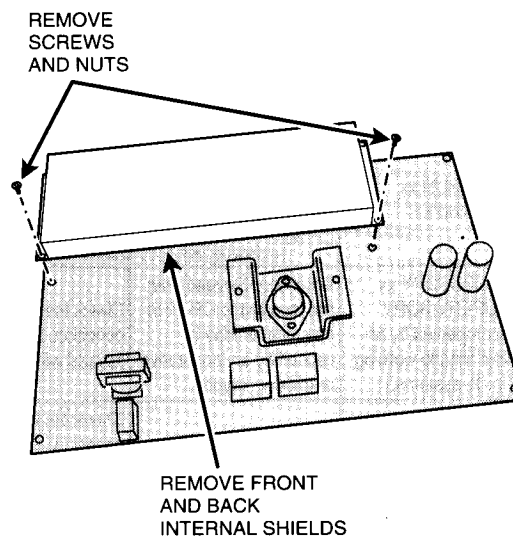

Figure 54. Removing Internal Shield
STEP 3 Remove internal shield. Remove the two screws and nuts from the internal shield. Remove the front and back shield pieces (see Figure 54). Set the front and back shields aside.